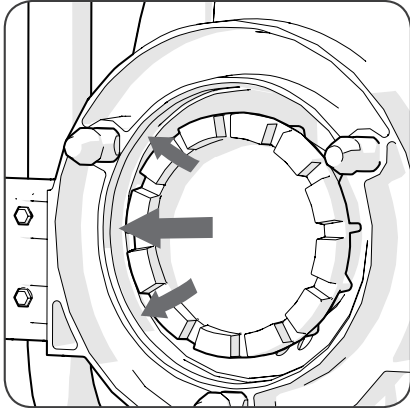

Fig 10 (arrows show inner wall of annular ring)
- Keep the annular ring scrupulously clean and free from debris. (**Fig. 10**)